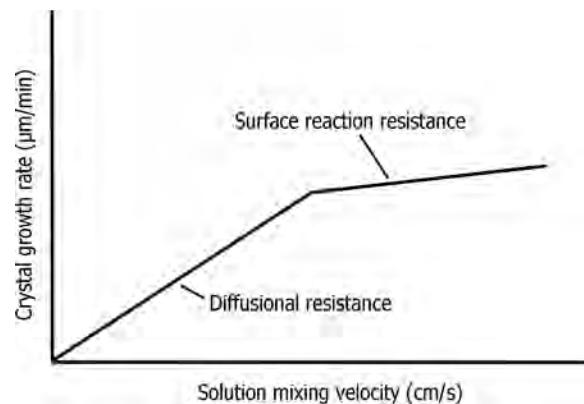

FIGURE 18.2 Crystal growth rate versus solution mixing velocity.
- Figure 18.2 illustrates diffusion-controlled regions and surface reaction resistance-controlled regions when plotted as growth rate as a function of solution mixing velocity.